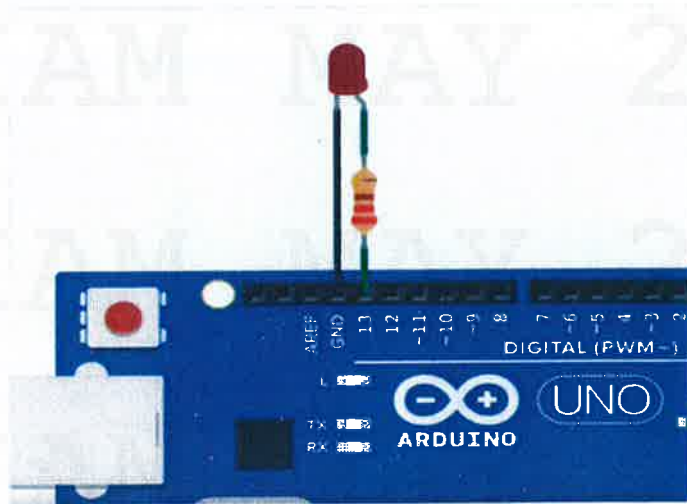

FIGURE Q4: Blinking an LED
4. The circuit depicted in **FIGURE Q4** shows an Arduino board to control an LED, with the support of a resistor.